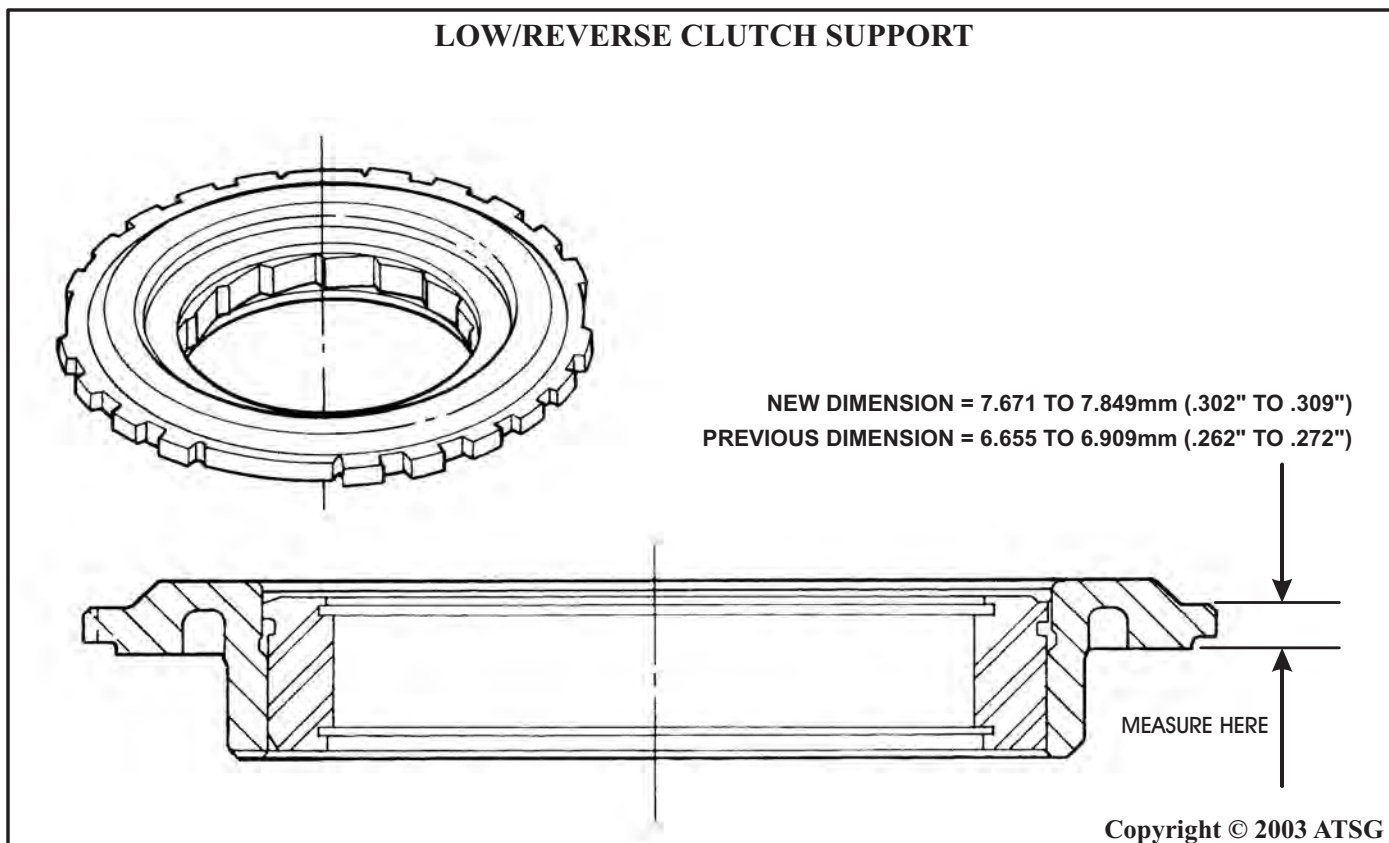

Figure 63
CHANGE: Beginning on July 23, (Julian Date 204) 1990, a new design Low/Reverse Clutch Support went into production on all THM 700-R4 transmissions, as shown in Figure 63. This change also created two new dimension selective plates for the low/reverse clutch pack.
- (1) **LOW/REVERSE CLUTCH SUPPORT** - Dimensional change which made it thicker in the area shown in Figure 63. There is no other means of identification except checking the measurement in the affected area. The new dimension and previous dimension are shown in Figure 63.
- (2) **LOW/REVERSE CLUTCH SELECTIVE PLATES** - Two new dimension selective plates were necessary to accommodate the change in the support, and are as follows: